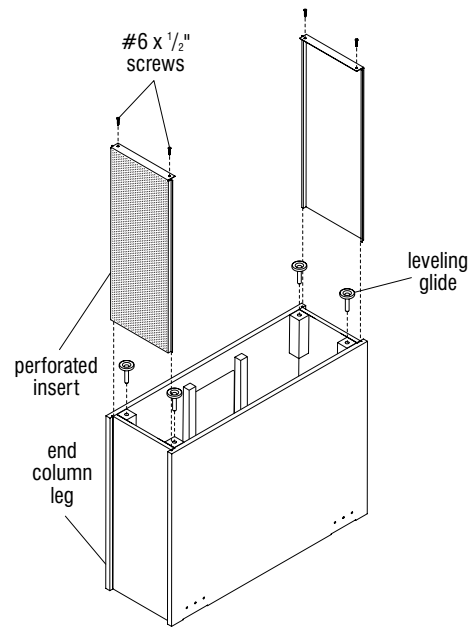

Figure 1
1. Rotate pre-assembled column leg onto its top (Figure 1).
2. Slide two perforated inserts into the slots from the bottom of the column leg and secure using four #6 x 1/2" screws (Figure 1).
3. Insert the four leveling glides into the glide blocks of the column leg (Figure 1).